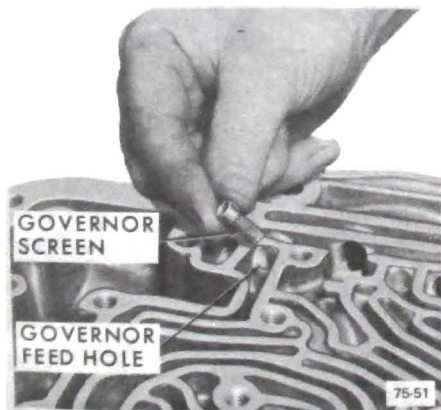

Figure 75-293
5. Install governor feed screen in the governor feed hole in case. See Figure 75-293.